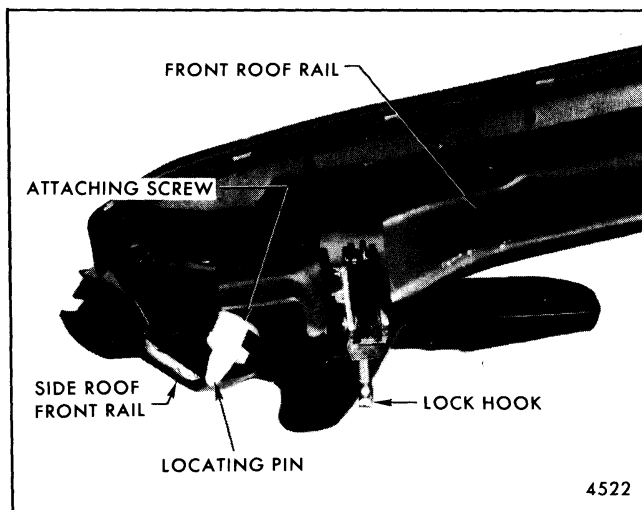

Fig. 8-65-Front Roof Rail Locating Pin
A locating pin, of plastic construction, secures to the front of each side roof front rail by an attaching screw (Fig. 8-65).
2. Remove attaching screw and remove locating pin (Fig. 8-65).